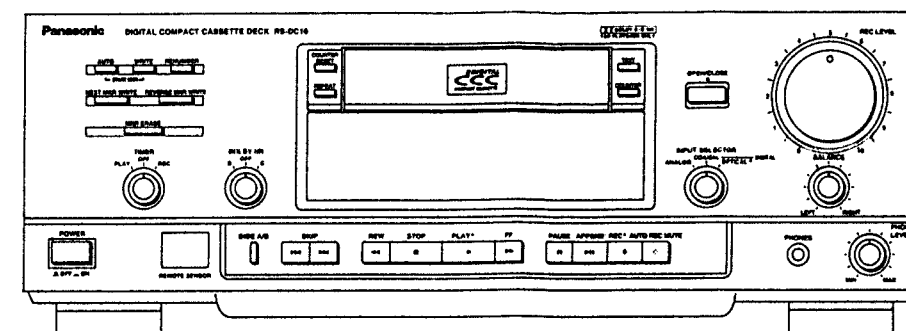

Fig. 5
Do not touch the left side Azimuth screw (Fig. 5).
2. While keeping your finger in the position given in Fig. 5. Press another finger on the head of the Supply reel cap, and turn the right side Azimuth screw to the right. (Control the range of movement to the left and right of the CH1 waveform.)